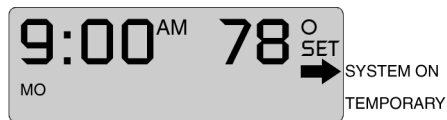

Fig. 25
- b. Press **Warmer** until the setting is 10°F (6°C) above room temperature (Fig. 25).